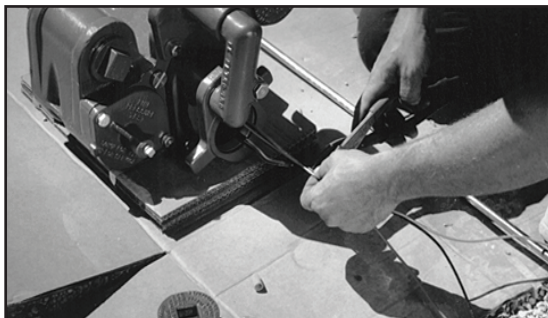

Figure 9: Measure and Cut Wire
20. Measure approximately 6" of wire from the discharge manifold; cut off excess wire and discard (Figure 9).